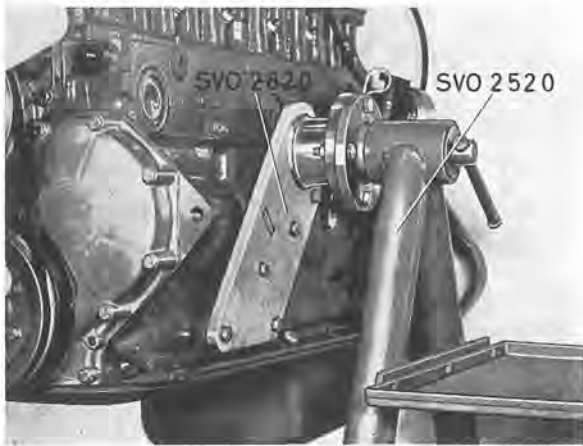

Fig. 2-19. Engine on stand
1. Place the engine on stand 2520 with fixture 2820. See Fig. 2-19. Check to make sure the oil has been drained off.